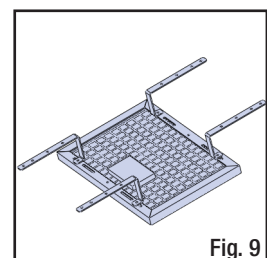

Fig. 9
3. Align brackets to unit with roof pitch and use 6mm nuts and bolts with washers to secure (A) & (B) Brackets in position as per Fig. 9.